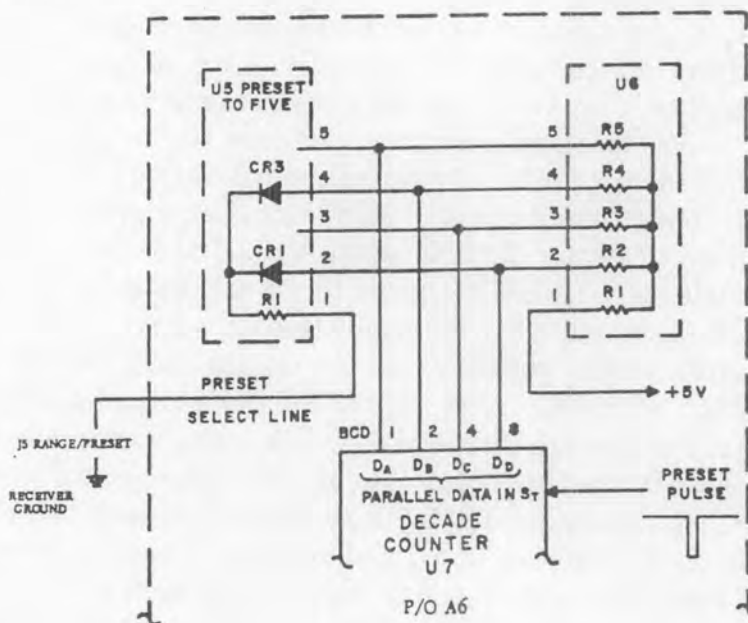

Figure 3-14. Preset Operation
3.6.3 SECOND DECADE OF COUNTING. - The second decade contains the same basic functions as the first. However, the use of a separate J-K flip-flop for gating is not required and a single medium speed decade counter IC performs the counting function. In addition, the second decade and all following decades have presetting capability. This function could be performed in the second decade by preset modules U5 and U6. These modules would be capable of loading a BCD number into the parallel data inputs of decade counter U7. Module U6 contains pull-up resistors for all parallel data inputs, and module U5 could pull down certain lines to determine the BCD number. A preset selector line determines whether U5 will be active. In the WJ-9026/RU system it never will be active. Figure 3-14 shows how preset operation would occur if a preset-to-five module were installed for U5. Resistor R1 in each module has a very low value; resistors R2 through R5 of U6 are 10 kilohms. When the preset line for module U5 would be made active (grounded) by rear panel range/preset connector J5, germanium diodes CR1 and CR3 of U5 would be forward biased and pull the BCD 2 and 8 lines down to 0.3 V to set them to the 0 state. But pull-up resistors R3 and R5 of U6 hold the BCD 1 and 4 lines in the 1 state, so that parallel data inputs D_A through D_D of U7 would have a BCD value of five. If the preset pulse